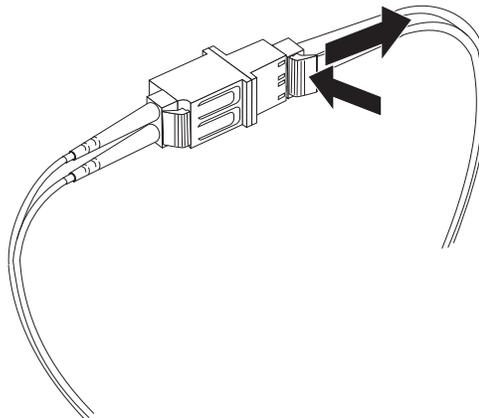

Figure 16. Removing the LC-LC Fibre Channel cable from an LC-SC Fibre Channel cable adapter
2. Carefully pull on the connector to remove it. Make sure you grasp the connector and not the cable when removing the LC-LC cable from the LC-SC cable adapter, as shown in Figure 16.